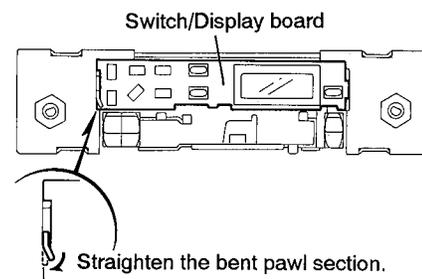

Fig. 2-5
### ■ Cassette mechanism assembly (Figs. 2-5, 2-6, 2-7)
2. Remove two flat head screws (5) retaining the cassette mechanism assembly from the chassis.
3. Before disassembling the mechanism assembly into a single mechanism unit, remove the switch/display board. (Fig. 2-5)
5. Place the set upside down, and remove two flat head screws (6) retaining the cassette mechanism assembly.